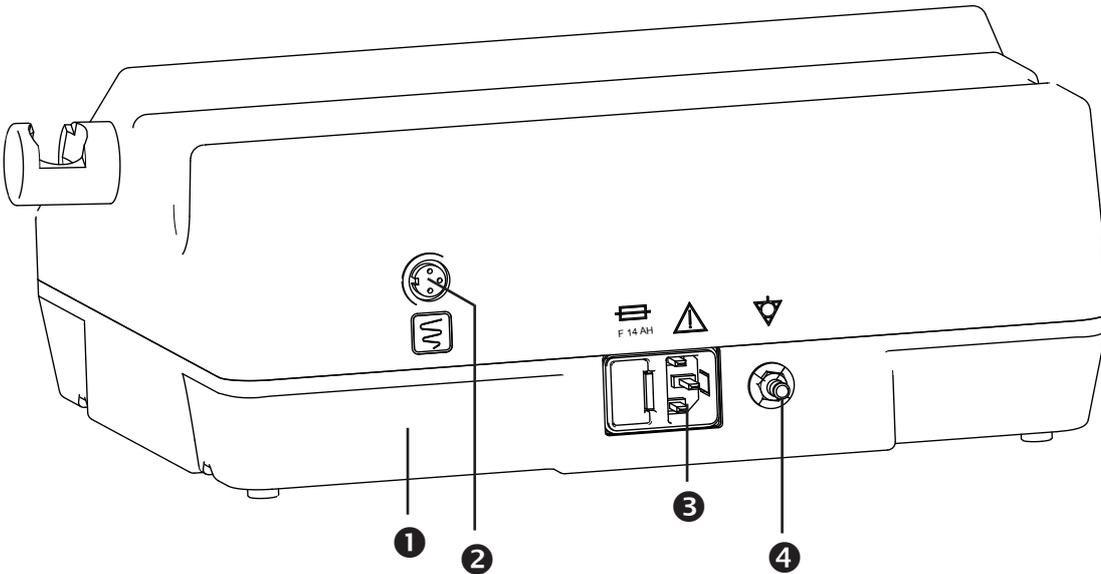

Fig. 2. Rear view
- Connect the power cable to the socket on the unit (③, Fig. 2).
- When controlling an ENG (electro-nystagmograph) or a CNG (computer-nystagmograph) at output (②, Fig. 2), please connect only recording equipment approved by ATMOS. Connecting cable available from ATMOS (see chapter 8.0).
- Connection for potential equalization (④, Fig. 2). Connecting cable available from ATMOS (see chapter 8.0).